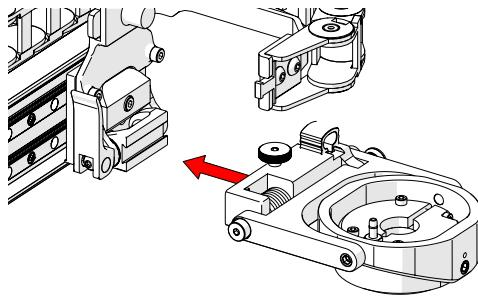

Fig. 138 - Attached to dovetail jaw
4. Align the dovetail jaw of the corrosion thickness probe holder (Fig. 138) and the pivot mount of the raster arm.